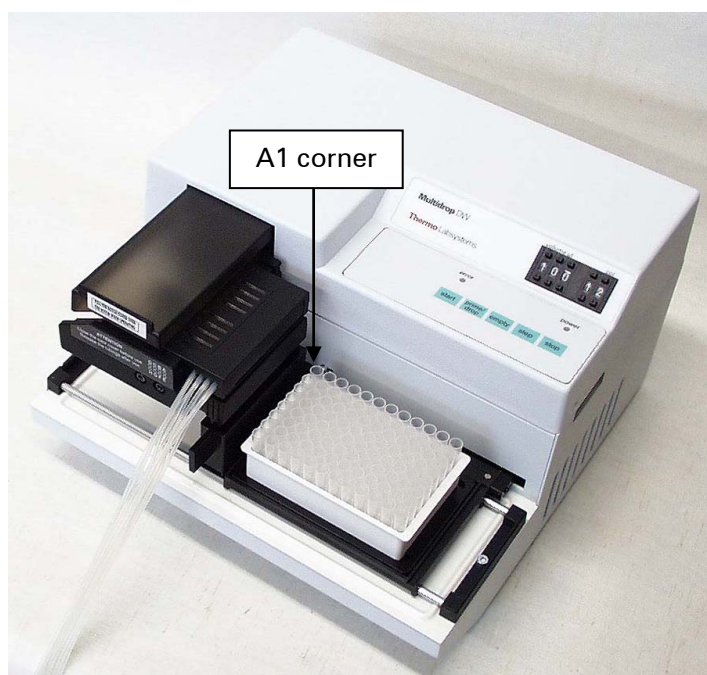

Fig. 6.13 Tubes in the 96-channel rack placed onto the plate adapter
- Then place the tubes in the 96-channel rack onto the plate adapter with the A1 corner of the rack located top left of the plate carrier (*Fig. 6.13*).